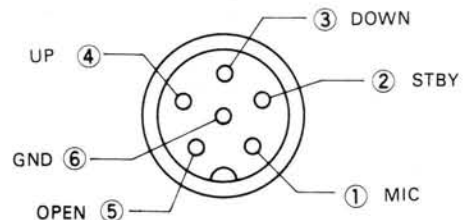

Fig. 18 MIC terminals
- Connect MIC connector as shown in Fig. 18.